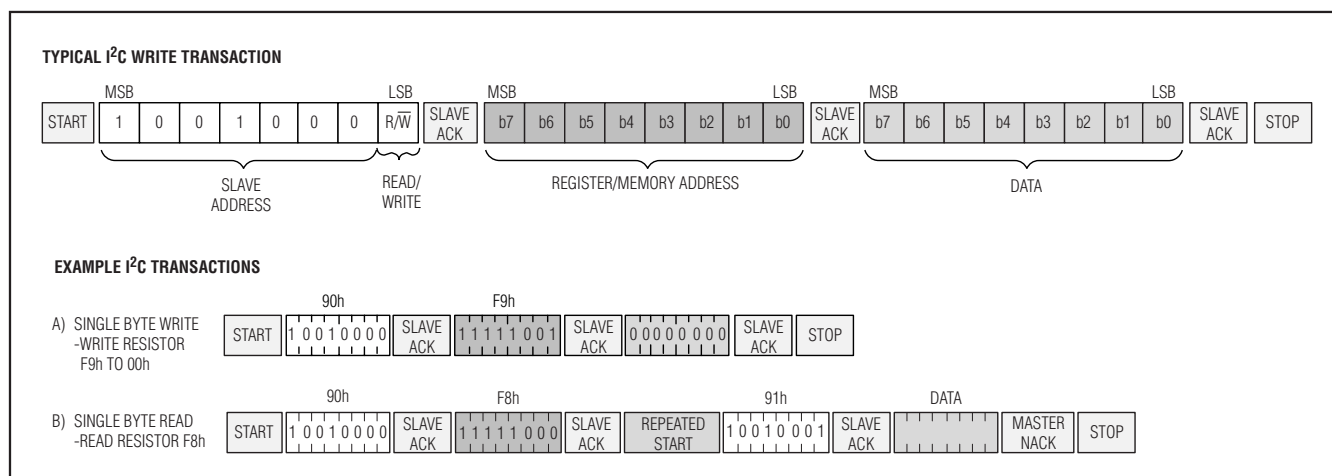

Figure 2. I2C Communication Examples
**Acknowledgement (ACK and NACK):** An Acknowledgement (ACK) or Not Acknowledge (NACK) is always the ninth bit transmitted during a byte transfer. The device receiving data (the master during a read or the slave during a write operation) performs an ACK by transmitting a zero during the ninth bit. A device performs a NACK by transmitting a one during the ninth bit. Timing for the ACK and NACK is identical to all other bit writes (Figure 2). An ACK is the acknowledgement that the device is properly receiving data. A NACK is used to terminate a read sequence or as an indication that the device is not receiving data.